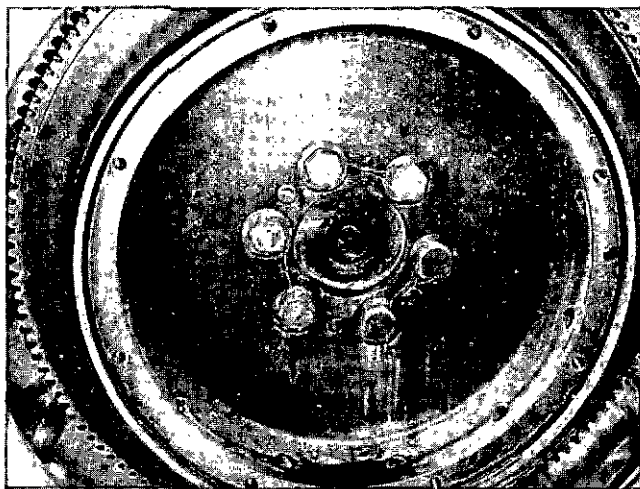

Fig. 14-1-95, V414181. Flywheel capscrews lockwired
5. Lock capscrews in pairs with lockwires. Fig. 14-1-95.